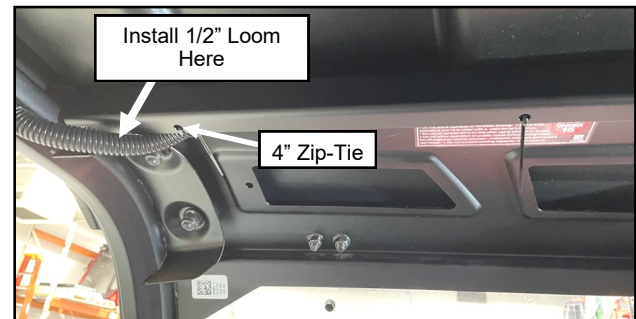

Fig. 1.12a (Connect Push-On Terminals, Left ROPS)
- 1.12 Per figures 1.12a & b, connect the two black wires and then the white to red wires. Cover the push-on terminals and wires using the provided 1/2" loom (taping loom in place) and zip-tying loom to windshield mount. Next, remove the center (3) pin connector on the vehicle buss bar and connect the Wiper Power Harness to the buss bar.